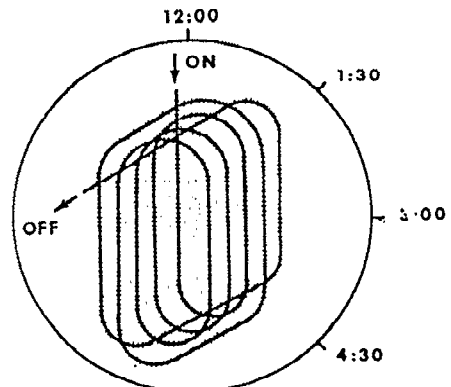

Figure 4.
- A. Circling on the green. The entire green is cut in one operation by this method. Make the first pass across the green approximately the tractor's own width off center and without stopping circle toward one edge of the green and work back to the center (see Fig. 4). The angle of entrance on the green should be changed each time the green is cut; think of the green as the face of a clock. Start the 1st mowing at 12 o'clock, the 2nd at 1:30, the 3rd at 3 o'clock, etc. on around the green. It is important that end passes are made over the turning area to insure complete cutting (See Fig. 4). This method of mowing reduces the time required to cut greens and also reduces the possibility of bringing objectionable long clippings, twigs, leaves, weed and grass seeds on to the green as the mowers are lowered and raised on the green and are never in contact with the apron. This method of cutting is most effective where steep slopes, sand traps, etc. are so close to the green as to prohibit normal off green turns. This method, however, will not produce a uniform striped effect that is sometimes desired.